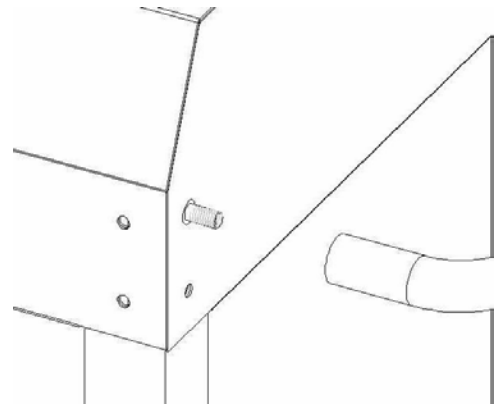

FIGURE 4
- 2- Reaching through the cutting board mounting hole, place the two (2) 5/16" x 2 1/2" hex mounting bolts, with lock washer and fender washer, through each of the handle mounting holes, located on the top right side of the cart chassis.
- 3- Using an adjustable wrench, or a 9/16" open-end wrench, align and tighten each mounting bolt into the handle. Do not over tighten. (SEE FIGURE 4)